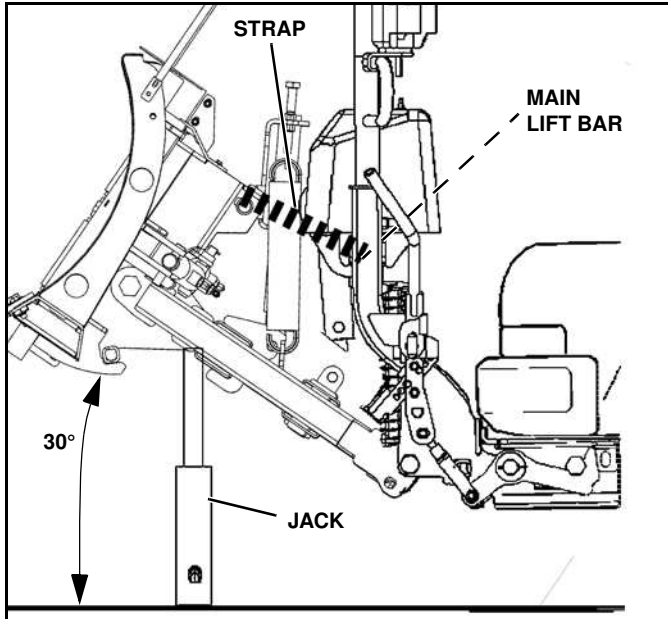

Figure 1-48
2. To lift plow, position jack under A-frame and angle up to a minimum of 30 degrees (or up to the lift stops). (See Figure 1-48).